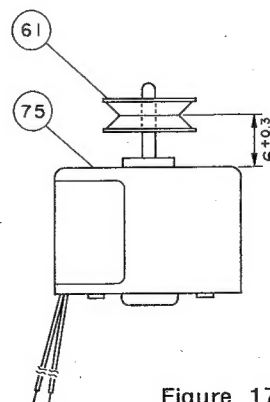
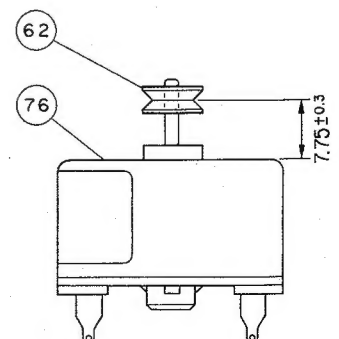

Figure 17
Figure 18
1. When the Pulley (61 or 62) is mounted to the Motor (75 or 76), make sure to have the specified clearance between the pulley and the motor referring to Fig. 17 and Fig. 18.